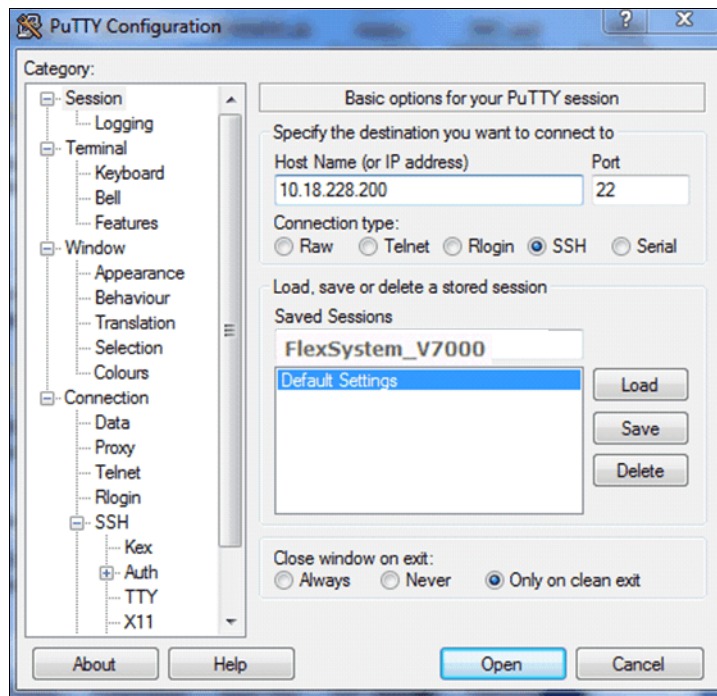

Figure A-13 Enter session information
- In the right pane, enter the host name or system IP address of the IBM Flex System V7000 Storage Node cluster in the Host Name field, and enter a session name in the Saved Sessions field (Figure A-13).